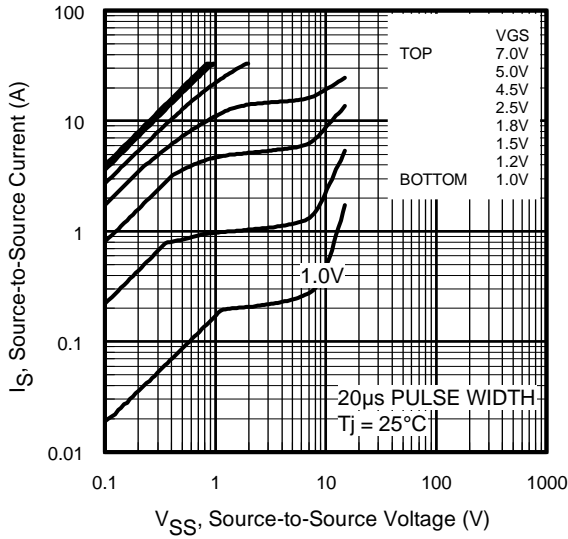
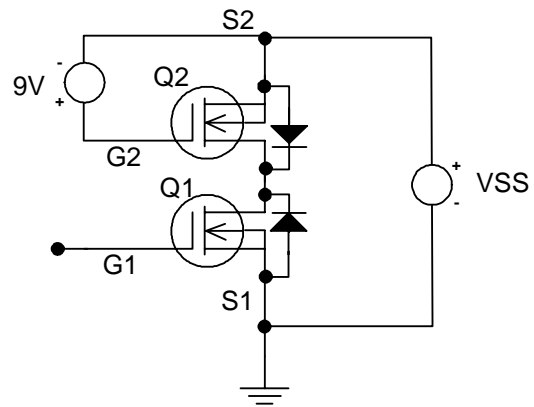

Fig 1. Typical Output Characteristics. ④
Fig 4. Output and Transfer Test Circuit.
- ① Repetitive rating; pulse width limited by max. junction temperature.
- ② Pulse width $\leq 400\mu s$; duty cycle $\leq 2\%$. Gate voltage applied to both gates.
- ③ When mounted on 1 inch square 2oz copper on FR-4.
- ④ Figures 1, 2 and 3: One Fet is biased with $V_{GS} = 9.0V$ and curves show response of the second FET. See Fig.4.